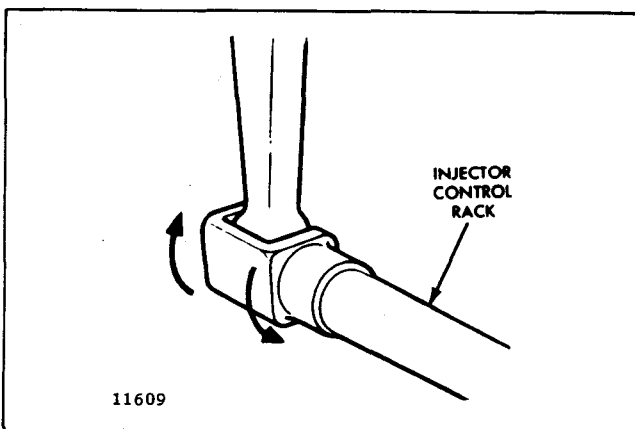
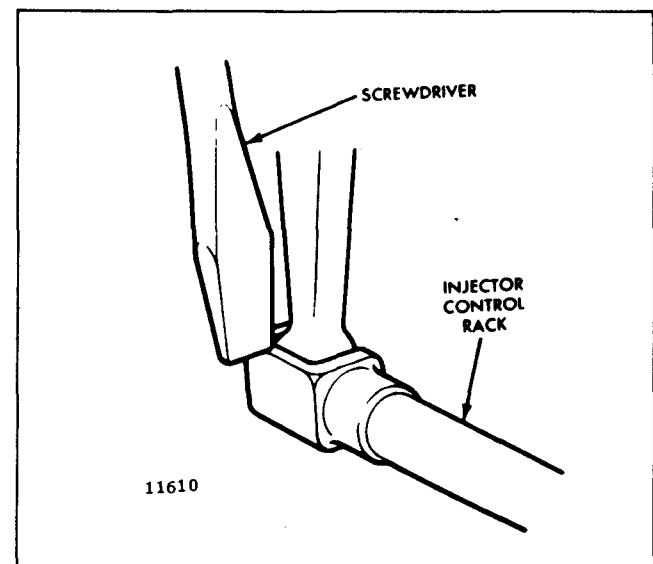

Fig. 4 - Checking Rotating Movement of Injector Control Rack
Fig. 5 - Checking Injector Control Rack Movement
6. To be sure of the proper rack adjustment, hold the speed control lever in the full-fuel position and press down on the injector rack with a screw driver or finger tip and note the "rotating" movement of the injector control rack (Fig. 4) when the speed control lever is in the maximum speed position. Hold the speed control lever in the maximum speed position and, using a screw driver, press downward on the injector control rack. The rack should tilt downward (Fig. 5) and when the pressure of the screw driver is released, the control rack should "spring" back upward.